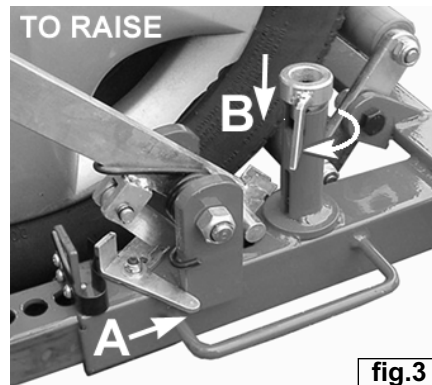

fig.3
3.4.1. Now engage the ratchet by turning the ratchet lever as far as it will go to the right. See fig.3 - A.(TO RAISE)
3.4.2. Engage the locking pin by turning the tab clockwise until it drops into the slot. Once in the slot the tab should be turned away from the pedal lever. See fig.3 - B.(TO RAISE)